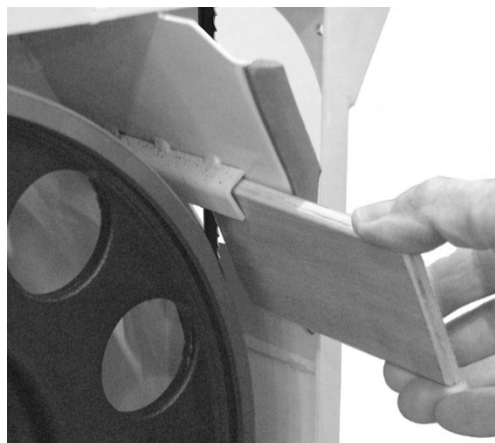

Figure 5-8a
2. Open bottom door and slide the wood insert until it contacts the blade edge (see Figure 5-8a).